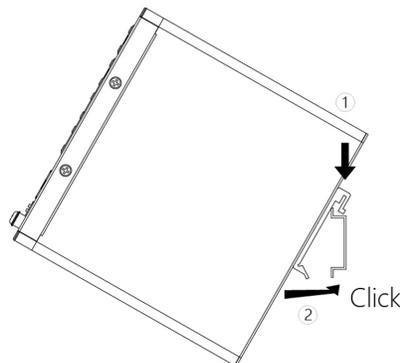

Figure 3. Attach Switch to DIN Rail
2. Insert the upper lip of the DIN rail into the DIN rail mounting kit and press the switch towards the DIN rail until it snaps into place, as shown in Figure 3.